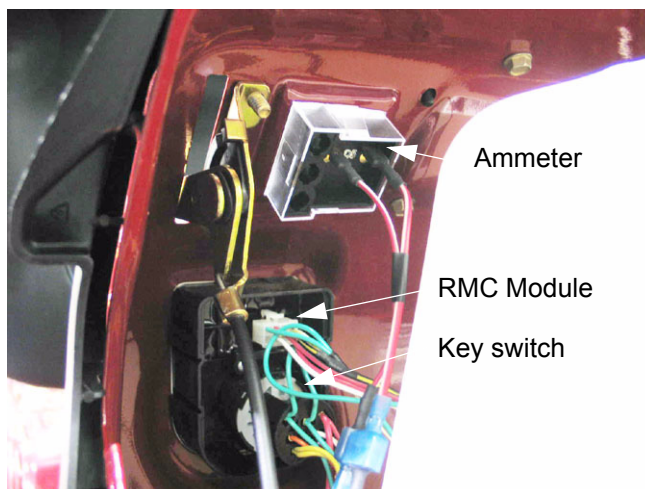

Figure 17.2
17.2. The **Key Switch** is similar to those used in a variety of MTD applications since 1999. The difference in this case is that it is incorporated in the same housing as the RMC module; the two items are not available separately. See Figure 17.2.